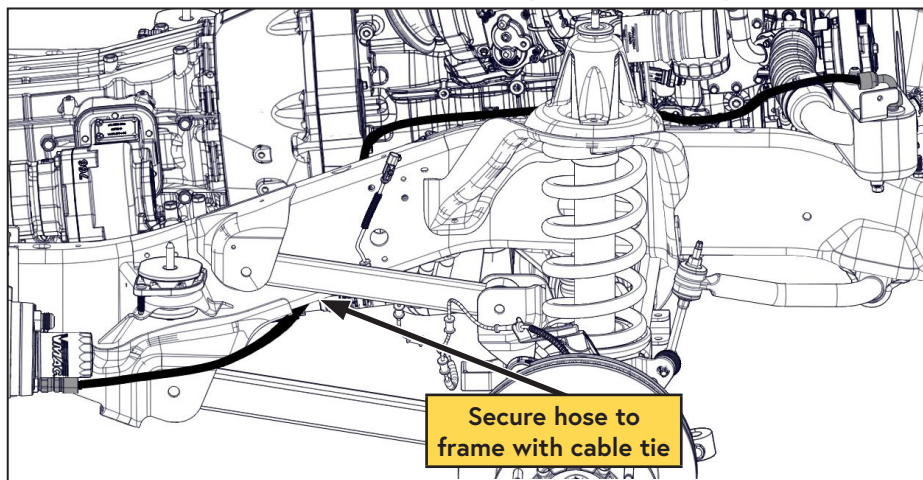

Figure 61 — Install oil return hose
- ☐ Route the hose along the frame, behind the inner fender, then down the inside of the frame. Pass the hose to the outside of the frame near the lower radius arm mount and connect it to the lower fitting on the AOST (Figure 61).